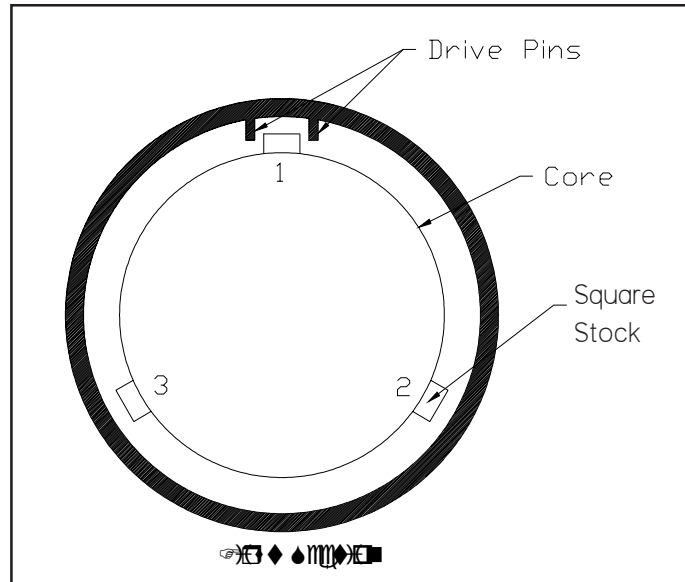

figure 1
- a. Number the tubes on the core as 1, 2 and 3 (figure 1).
- b. Slide the first section onto the core with the drive pins on either side of square stock 1. Make sure that the drive pins angle up (figure 1).